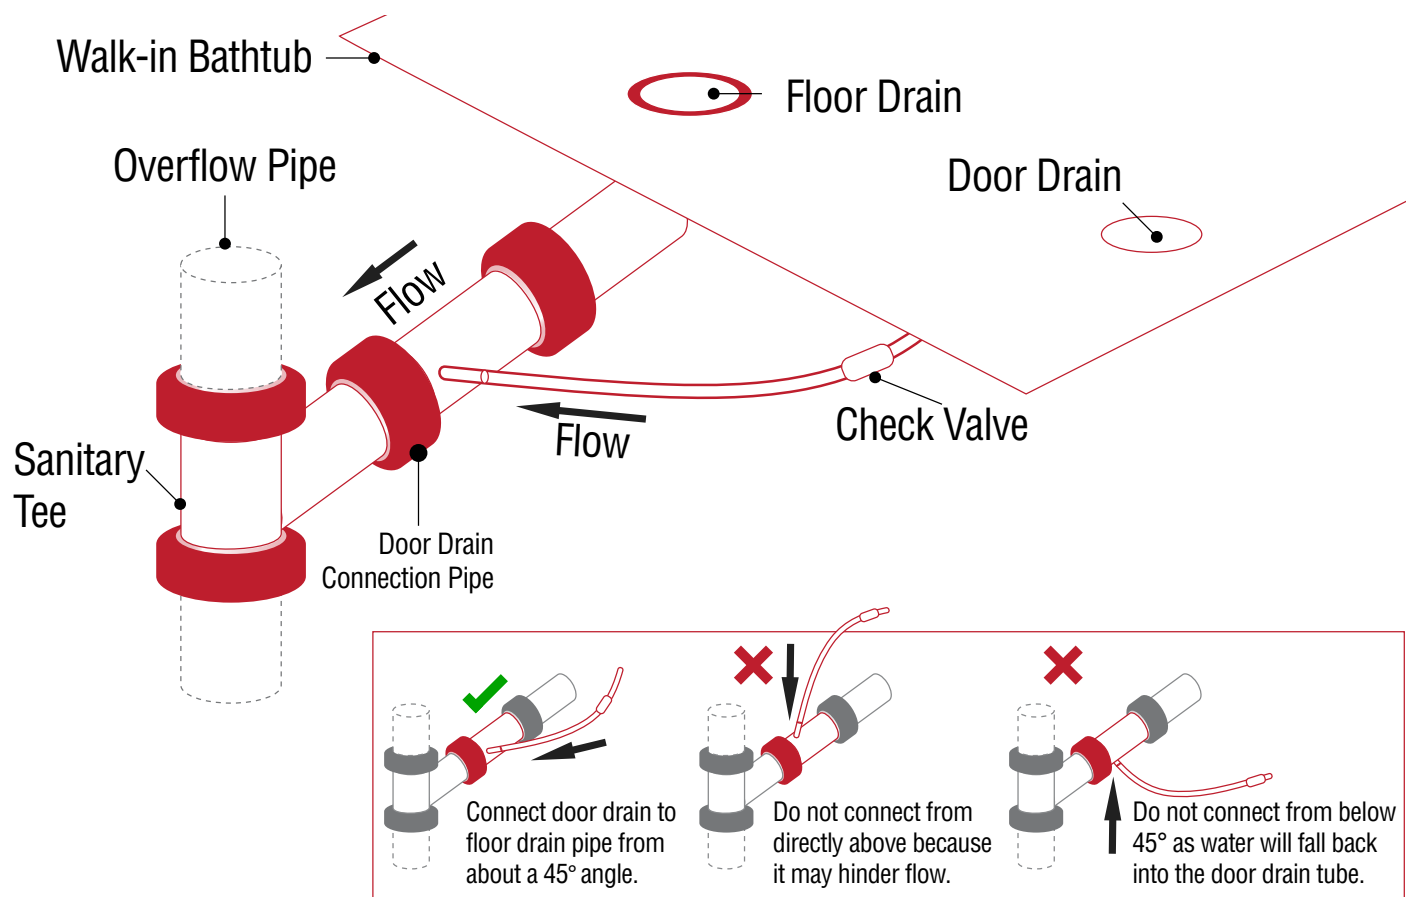

FIGURE 4
4. Once the completion of the drain components are installed and have been tested for proper function, the unit can be leveled and give a final water test before installation of unit (Figure 4).